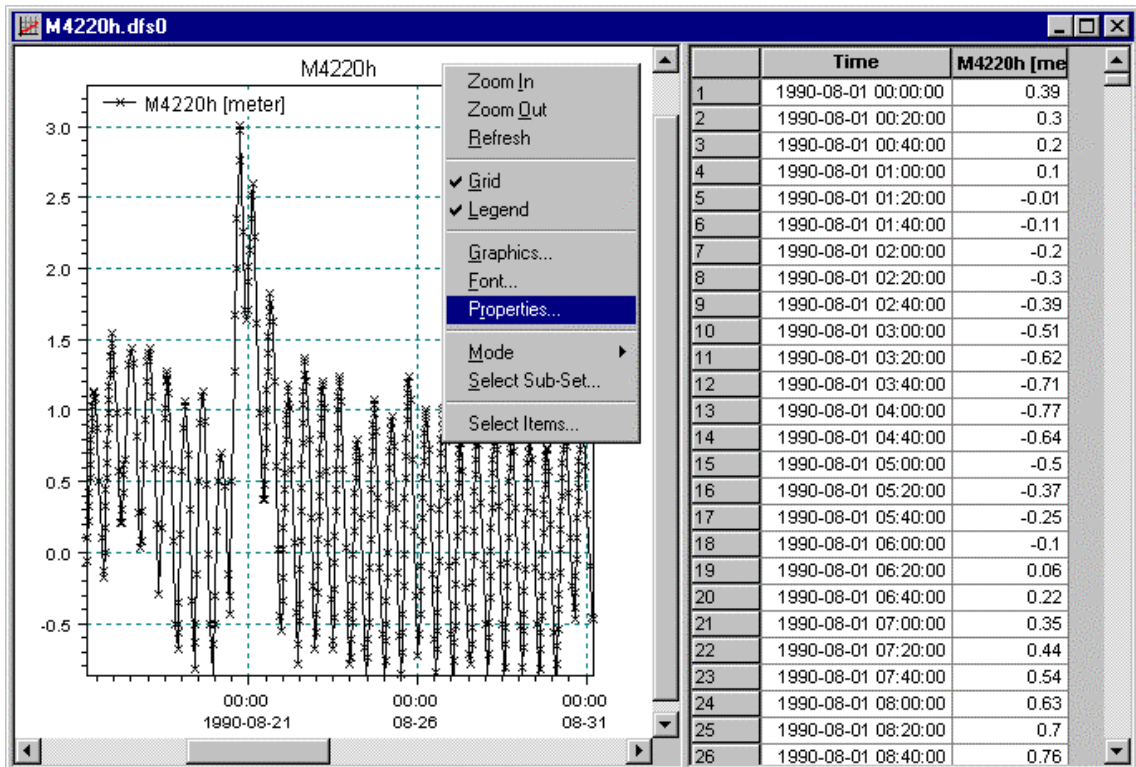

Figure 5.8: Time series editor; Time series data dialog
The time series data dialog consists of two views, a tabular view and a graphical view (see Figure 5.8).
- To activate the pop-up menu as shown on figure 5.8 place the cursor in the graphical view and press the right mouse button.